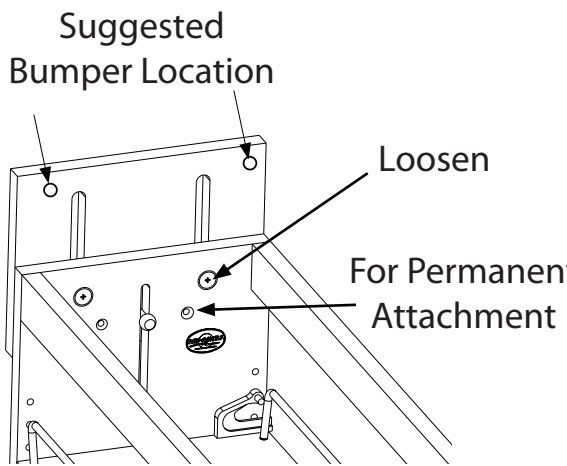

Fig 3
- 5) Loosen the machine screws at the top back wall of the unit to allow the rear stop to float freely. (See Fig. 3). Raise the rear stop until it catches the rear of the face frame (if frameless application, a block may need to be added to allow the stop to work properly). Once the stop is at the right height, the machine screws can be tightened. (Note: Once in place you can permanently secure the location using the pre-drilled pilot holes and the (2) #6 x 1" flat head screws provided.)
- 6) Rubber bumpers are provided to place at the top of the rear stop between the face frame and the stop to deaden the noise. (See Fig 3)